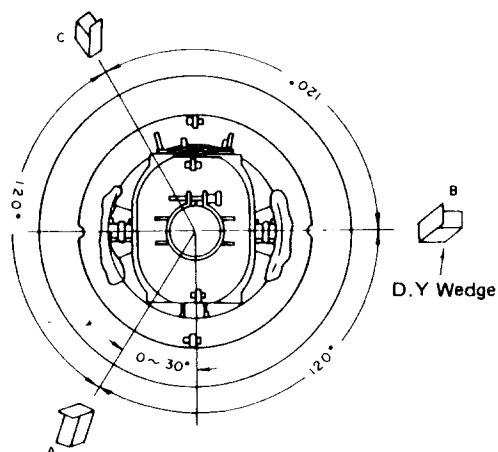

Figure 29
- Remove the DY wedges (see figure 29) and slightly tilt (do not rotate) the deflection yoke horizontally and vertically to obtain good overall convergence.
- Secure the deflection yoke by reinserting the wedges. (See figure 29).